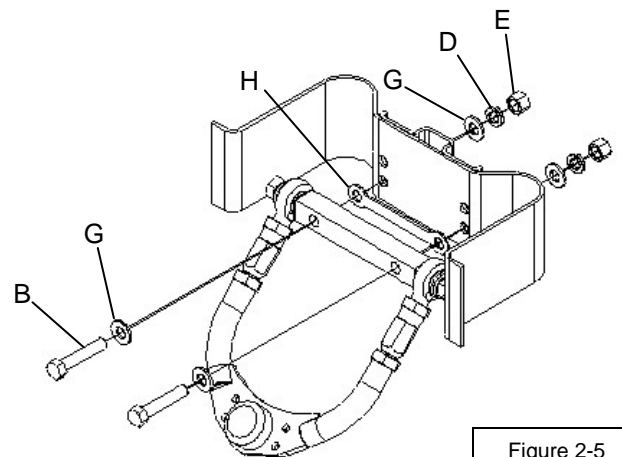

Figure 2-5
14. Bolt upper control arm pivot shaft to shock tower at lowered mounting location (Figure 2-5).